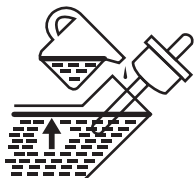

FIGURE 34: Engine Oil Level
4. Insert oil fill cap into oil fill hole but do not screw in (Figure 34).